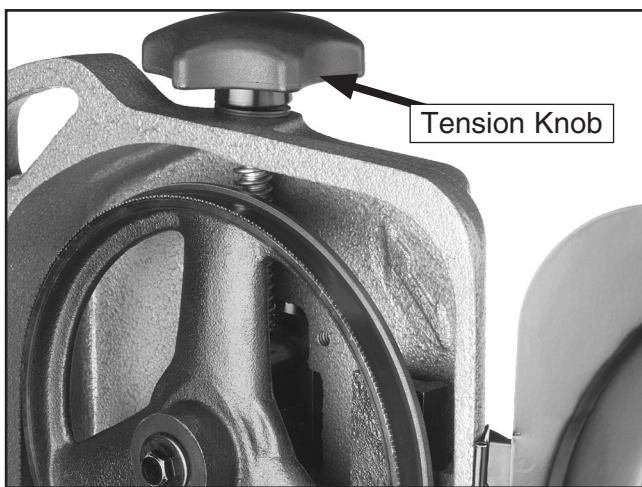

Figure 51. Tension knob and blade.
4. Turn the tension knob in **Figure 51** clockwise to tighten the blade as tight as you can get.